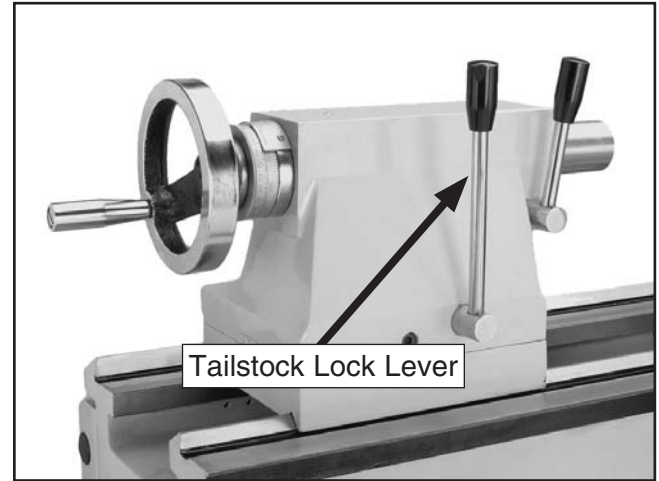

Figure 8. Tailstock lock lever.
4. To balance the lifting load, loosen the tailstock lock lever, move the tailstock to the end of the bedway, then lock it in place (see **Figure 8**).